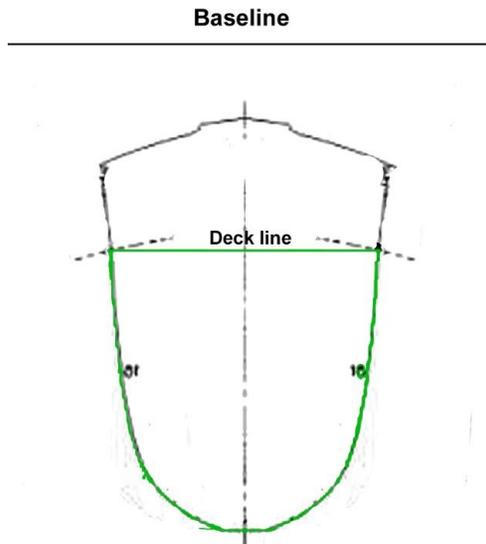

Figure 7. The basic outline of rib 16 from the Body Plan.
5. At this point, let's focus our attention on just one rib, say number 16, by erasing all the rest. This is shown in Figure 7. The position of the deck is shown by the "Deck line", a horizontal line drawn through the intersection of rib 16 with the dotted deck-edge line. Ensure that you draw the hull centreline all the way to the baseline. You will use this to position the ribs so that they all line up correctly. The outline of the finished hull body at rib 16 is shown in green in Figure 7.
6. It is at this time that you need to know the materials you will use to make the deck and the hull sides. The outline of the rib shown in Figure 7 must be lowered at the deck line by the thickness of material to be used for the deck. The outline must be reduced on the rest of the